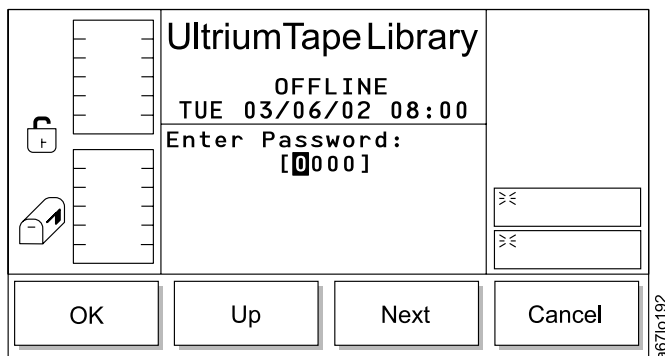

Figure 155. Enter Password Dialog
- If **Yes/No** is selected, the Enter Password Dialog displays (see Figure 155).